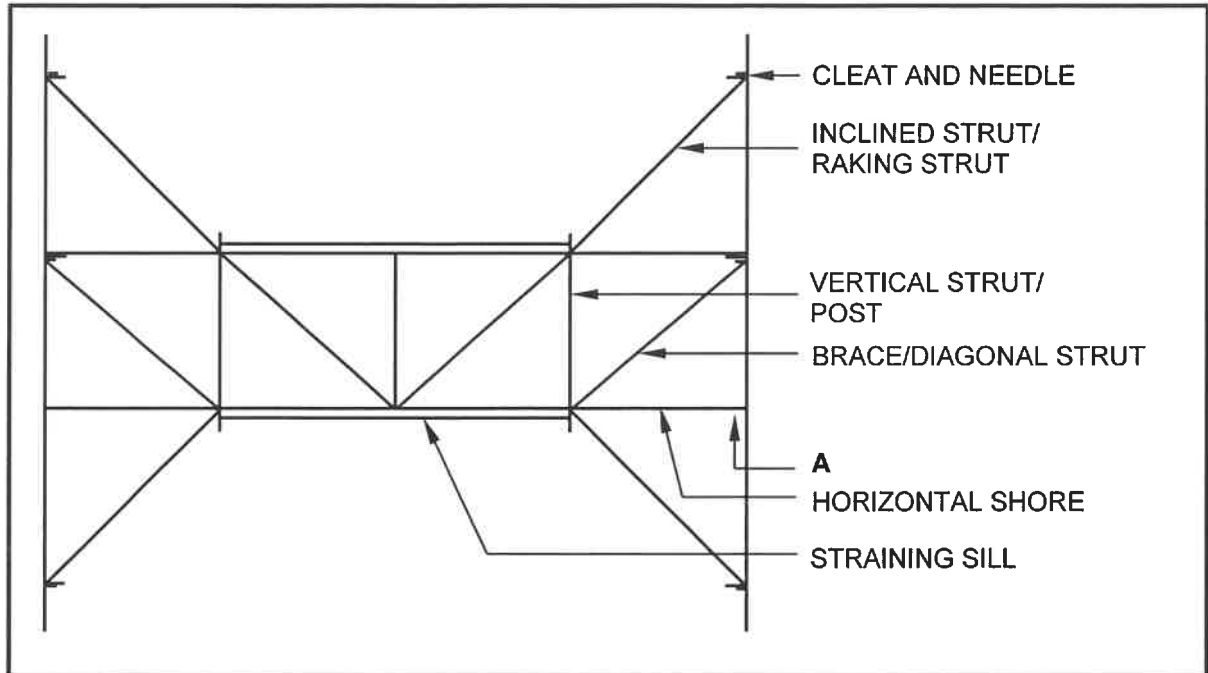

FIGURE 5.2
- D All the above-mentioned (1)
5.2 FIGURE 5.2 below shows a line diagram of a shore. Analyse the drawing and answer the questions that follow.